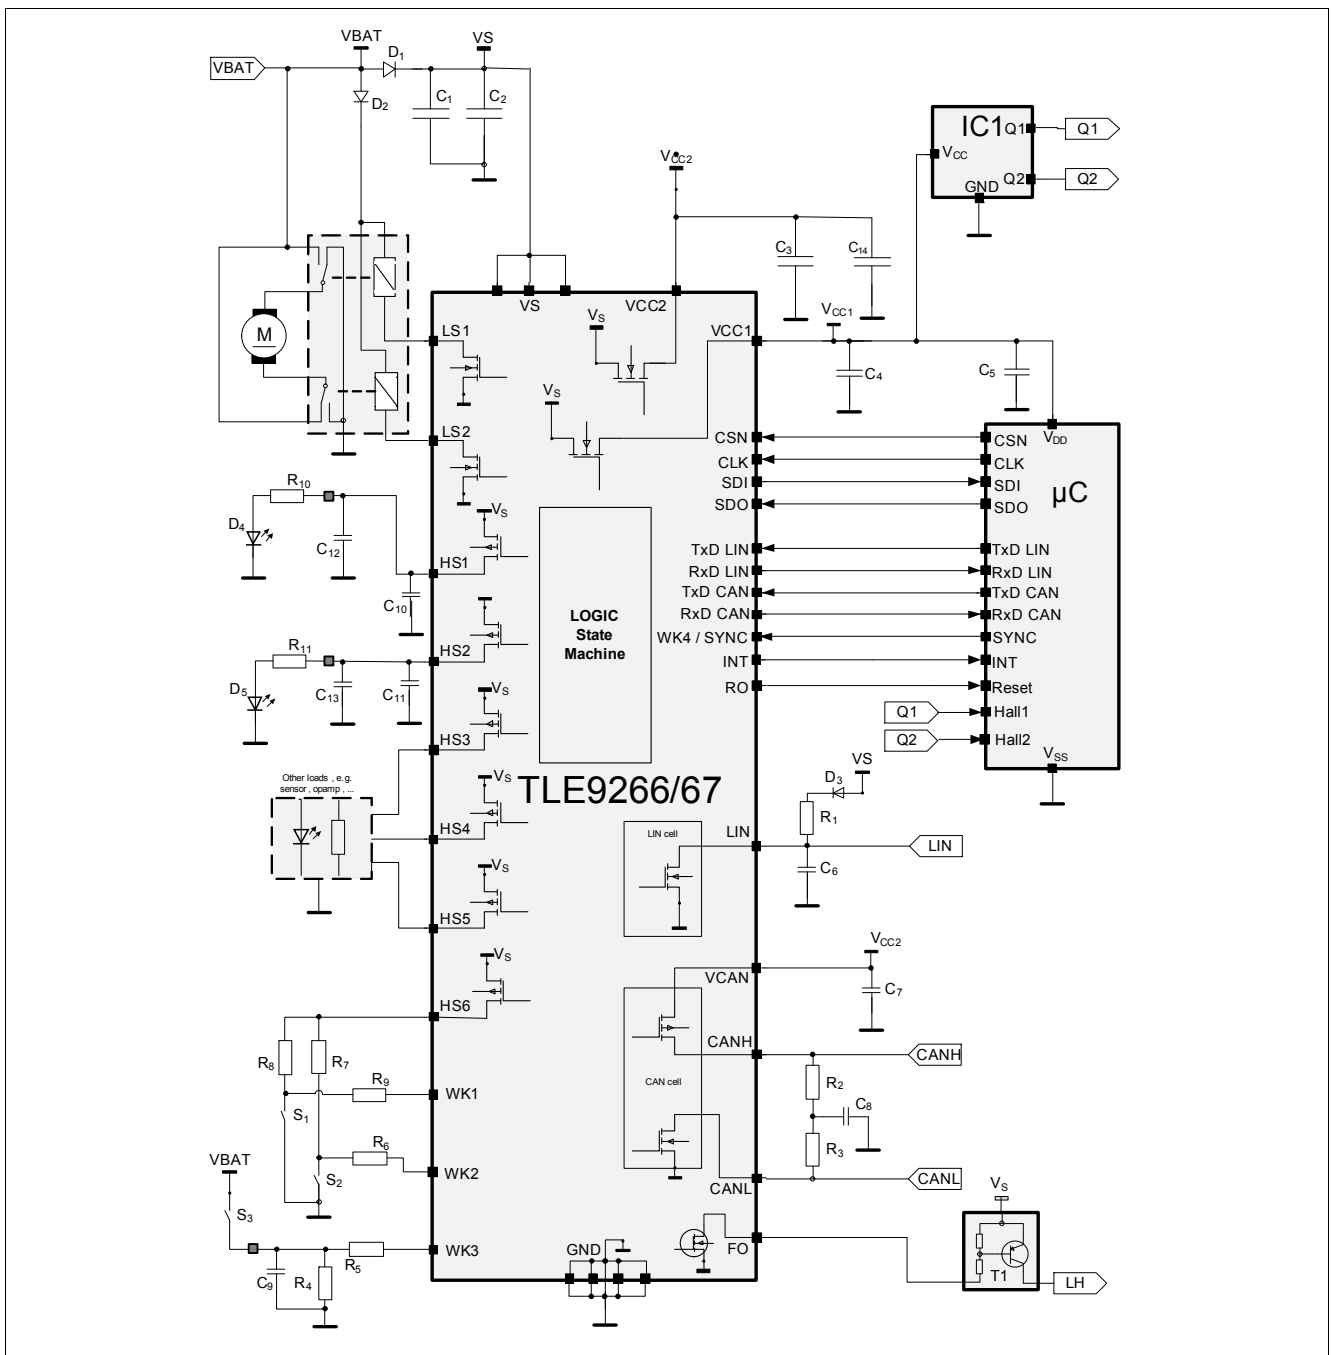

Figure 39 Simplified Application Diagram
**Table 25 Bill of Material for Figure 39**
Table 25 Bill of Material for Figure 39 (cont'd)